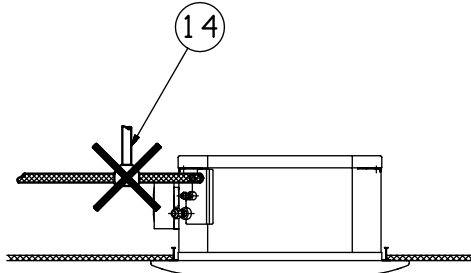

Fig. 3-7
- Do not install an air bleeder ⑭, as this may cause water to spray from the drain tube outlet. (fig. 3-7)